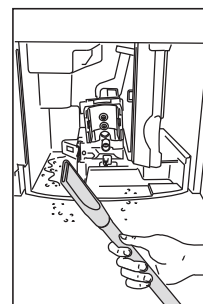

Fig. 38
- Remove the residues with a vacuum cleaner (Fig. 38).